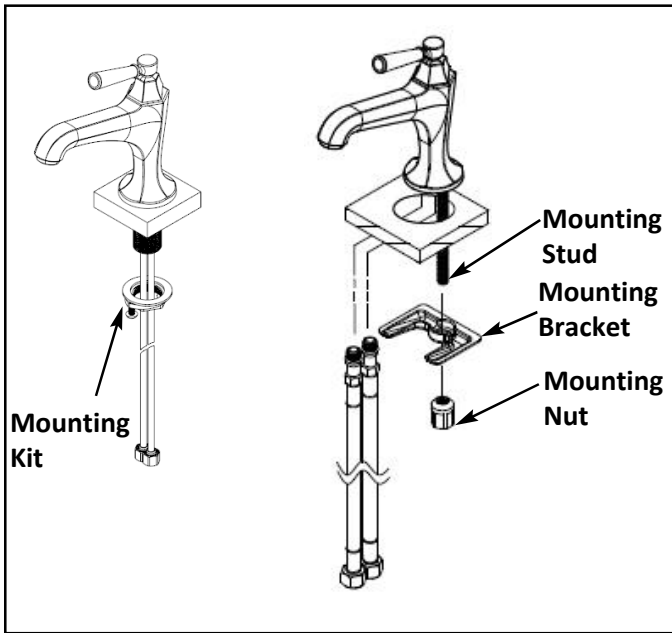

Figure 1
1. Insert hoses through deck hole one at a time, and secure spout into place with MOUNTING STUD, MOUNTING BRACKET and MOUNTING NUT. For 1203 & 1233 secure spout into place with MOUNTING KIT. **See Figure 1.**